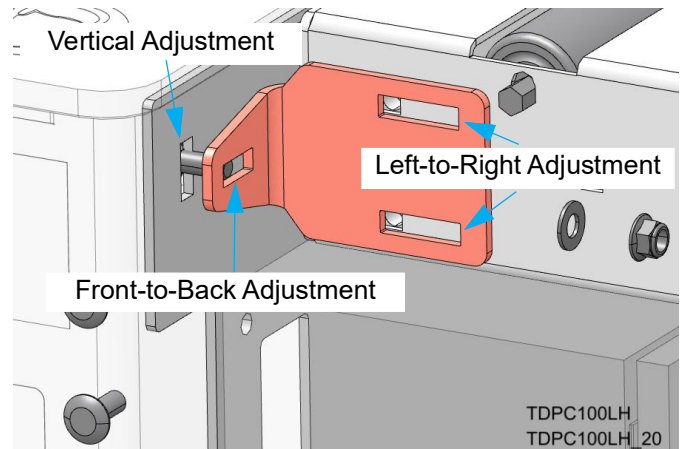

FIG. 4-12
Use leveling feet (See Figure 4-10) and vertical adjustment slots in machine (See Figure 4-12).
- Use front-to-back adjustment slots on adjustment brackets. See FIG. 4-12
- Use left to right adjustment slots on adjustment brackets. See FIG. 4-12